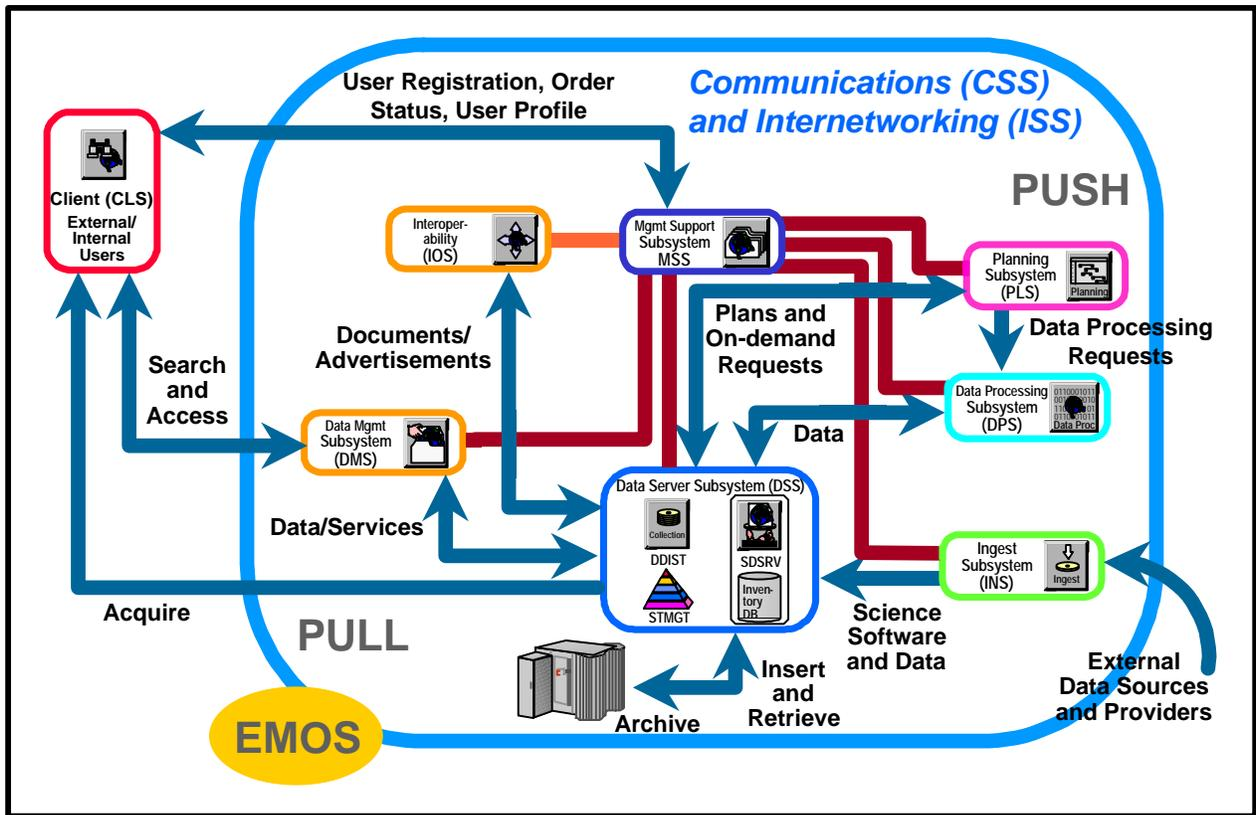
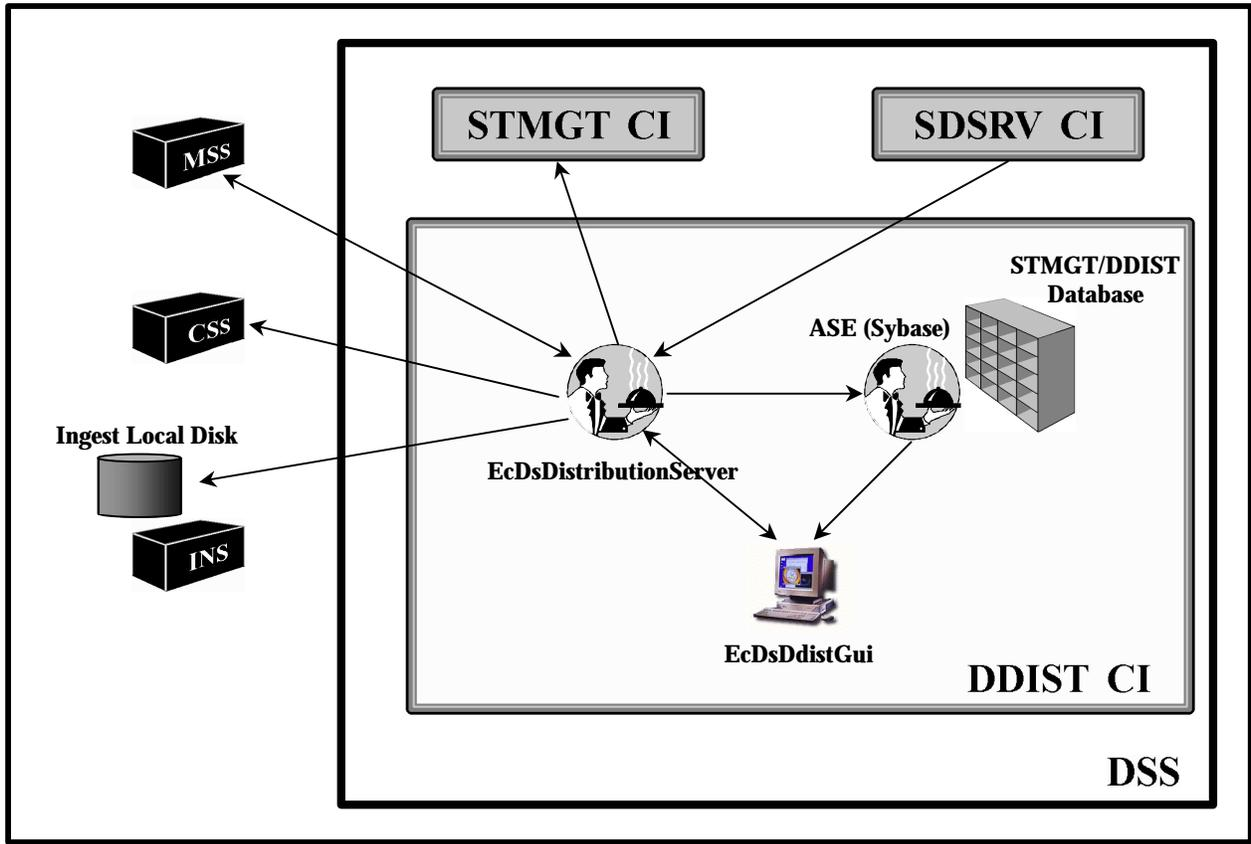

Figure 1. ECS Context Diagram
Figure 2. DSS Data Distribution (DDIST) CSCI Architecture
The ECS Context Diagram (Figure 1) shows the relationships among subsystems within the Science Data Processing component of ECS. The Data Server Subsystem (DSS), which manages access to the data archive, is key to data distribution as well as several other functions. Of course, the context diagram shows a generalized (high-level) view of ECS. The Data Distribution (DDIST), Storage Management (STMGT), and Science Data Server (SDSRV) architecture diagrams (Figures 2 through 4 respectively) focus on the individual computer software configuration items (CSCIs) of the Data Server Subsystem and their relationships with each other and with other subsystems.
- DDIST (Figure 2) is the part of the DSS that formats and distributes data to users.
DDIST has the following three major components (as shown in Figure 2):